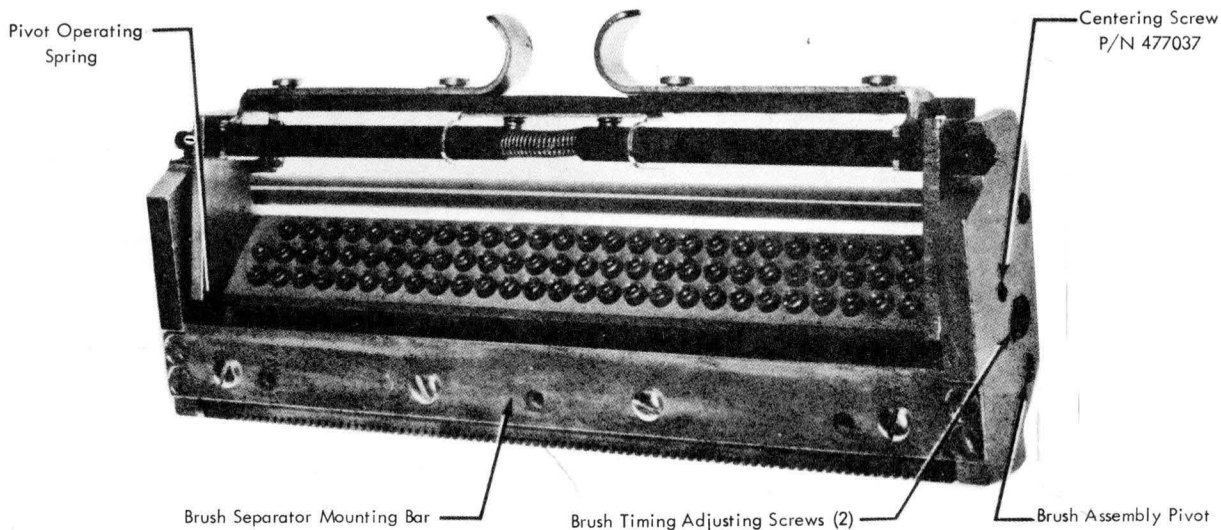

Figure 4-3. Read Brushes
1. With brush unit down and locked, check for .015" to .040" between brush separator bar and contact roll (Figure 4-3).